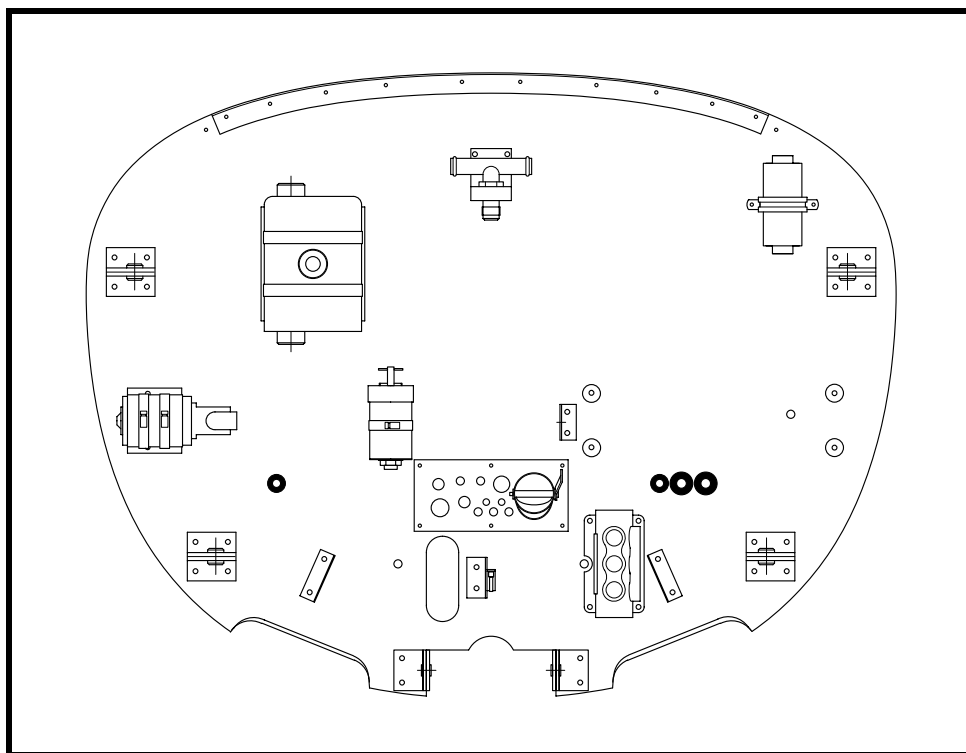

Figure 25
- ❑ Install the firewall on the front face of fuselage frame No. 1 by installing a number of fittings. In particular, the engine mount lugs must be installed at this point. Figure 25 shows all of the equipment that is installed on the firewall. The electric fuel pump is installed on the right side of the aircraft and the gasolator on the left.